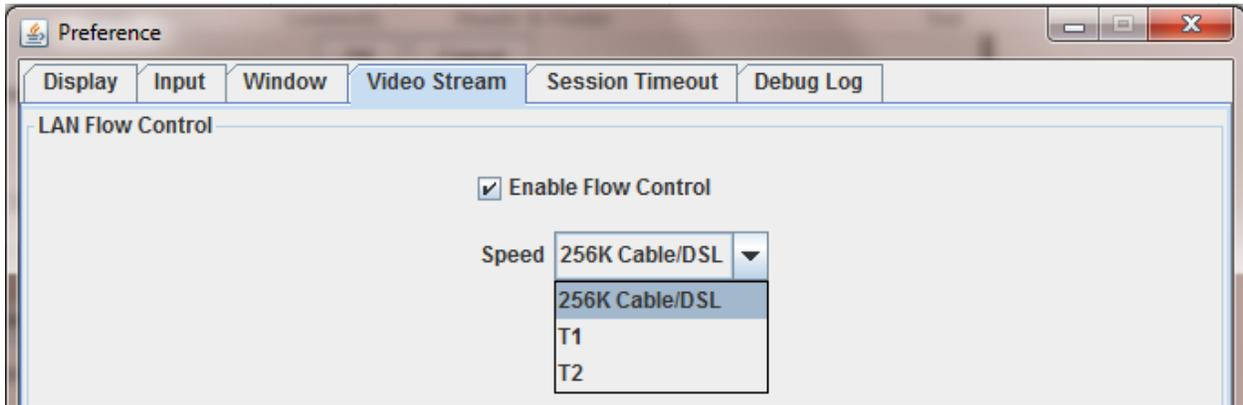

Figure 26. Remote Console Video Stream Settings
- **Video Stream** (Figure 26) – Enable flow control by specifying a speed of T1, T2, or 256K Cable/DSL.